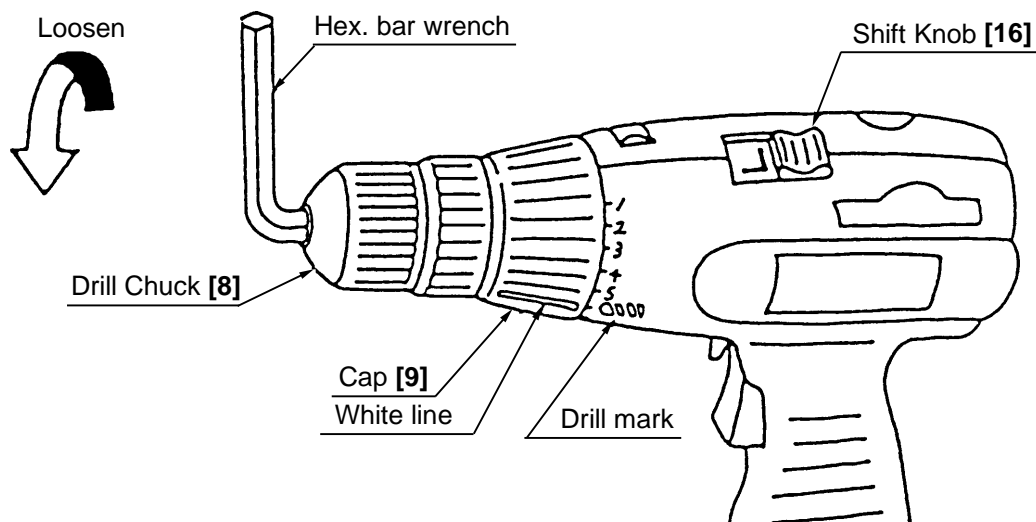

Fig. 7
(1) Removal of the Drill Chuck **[8]** : (Fig. 7)